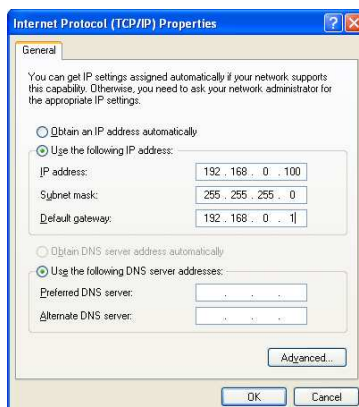

Figure 6.
- In the opened tab **Internet Protocol (TCP/IP) Properties** select function **Use the following IP address** (Fig. 6).